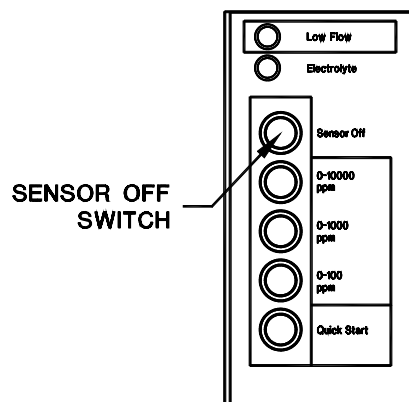

Figure 2: Sensor Off Switch
4. Be sure the Sensor Off switch is not depressed. See Figure 2